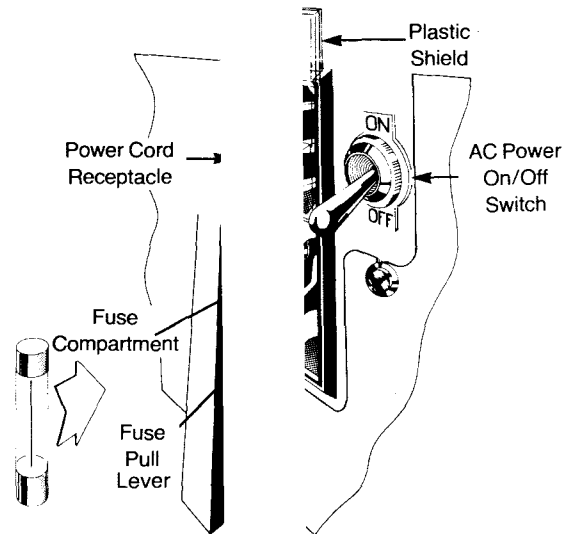

Figure 7-4. Power Cord and Fuse Compartment At Rear of Printer
7.4.2 FUSE REPLACEMENT. To replace the power line fuse refer to Figure 7-4, and proceed as follows: